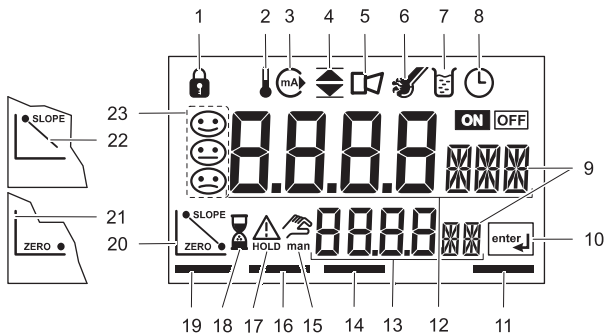

Figure 11 Display
**Figure 11** identifies all of the possible icons and symbols that may be seen in the si792 transmitter display.
**Note:** During configuration the transmitter remains in the Hold mode for safety reasons. The loop current is frozen at the value specified in the o1.HoLD menu option. The Sensoface icon is inactive. The configuration mode indicator is displayed (Figure 11 on page 29).